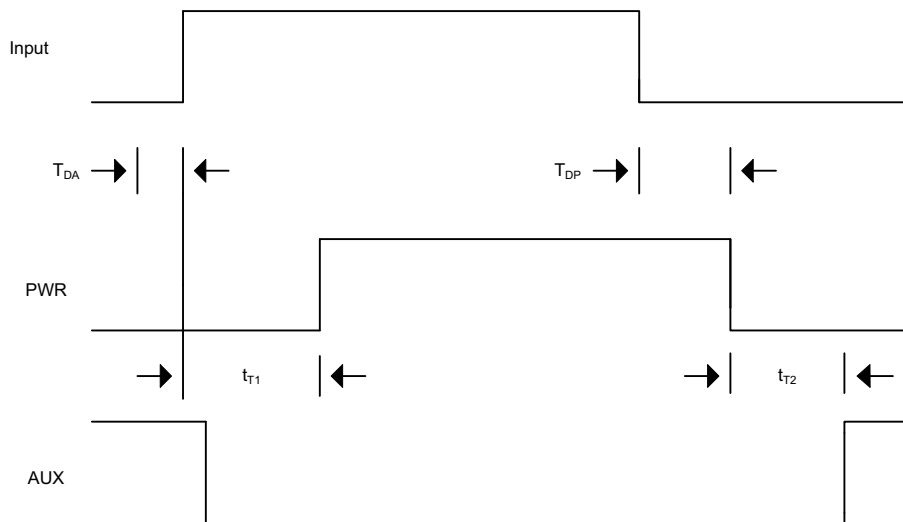

Figure 4. Timing Diagram
- T1 delay and T2 delay are defined as the time between the 50% transition point of AUX (PWR) and the 50% transition point of PWR (AUX) with no capacitive load on either output (Figure 4).
- Propagation delays ( $t_{DP}$  and  $t_{DA}$ ) are measured from the 50% point of the input signal to the 50% point of the output signal's transition with no load on the outputs (Figure 4).